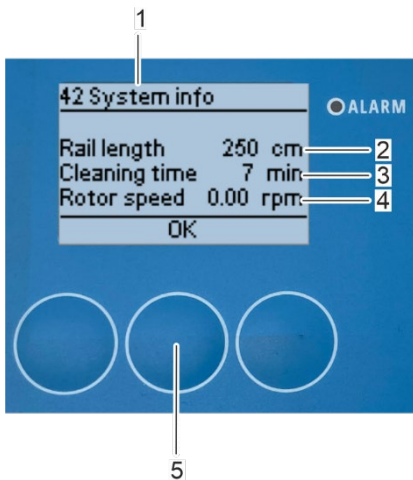
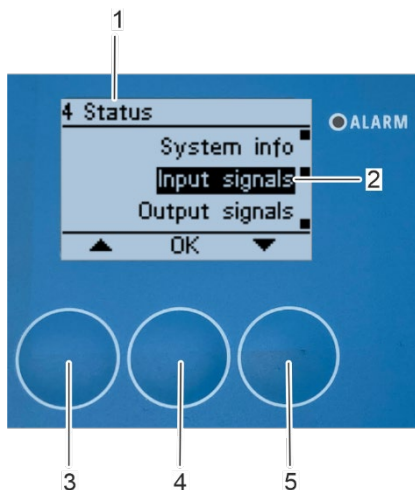

Fig. 176: Submenu "System info"
Fig. 177: Open submenu "Input signals"
⇒ The "42 System info" submenu appears on the display (Fig. 176/1) showing the values "Rail length" (Fig. 176/2), "Cleaning time" (Fig. 176/3) and "Rotor speed" (Fig. 176/4).
3. Press [OK] (Fig. 176/5) to return to the submenu "4 Status" (Fig. 177/1).
⇒ The "4 Status" submenu (Fig. 177/1) appears on the display.
1. Select the "Input signals" submenu (Fig. 177/2) with the arrow keys [up] (Fig. 177/3) and [down] (Fig. 177/5).
2. Confirm the selection with [OK] (Fig. 177/4).